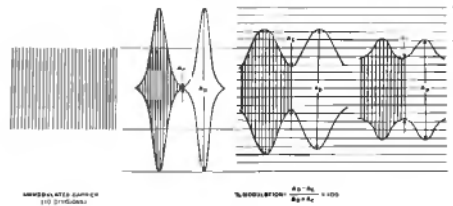

Figure 7-11. Percentage Modulation Chart
- (1) Remove the signal generator from its case. See paragraph 7.
- (2) Remove the RF shield assembly. See paragraph 8.
- (3) Turn FUNCTION SWITCH to CW position.
- (4) Adjust carrier output to 100.000 microvolts.
- (5) Turn FUNCTION SWITCH to INT MOD 400 cycle position.
- (6) Turn % MOD control fully counterclockwise.
- (7) Connect the RF OUTPUT jack (J102) to the vertical input terminals of an oscilloscope.
- (8) Place a grounded cathode probe over the face of the oscilloscope.
- (9) Adjust vertical gain of oscilloscope for 50 percent coverage on screen. Refer to Figure 7-11, unmodulated carrier.
- (10) Turn the % MOD control (R104) until focus panel meter reads 50 percent modulation.
- (11) Turn the MOD METER ADJ control (R158) until oscilloscope pattern indicates 50 percent modulation. See Figure 7-11, 50 PERCENT MODULATION.
- (12) Turn the % MOD control (R104) until focus panel meter reads 30 percent modulation.
- (13) Observe oscilloscope pattern. It should appear as drawn in figure 7-11, 30 PERCENT MODULATION.
- (14) If necessary readjust (R158) MOD METER ADJ control until 30 and 50 percent readings are both as accurate as possible, favoring the 30 percent adjustment since the value is used most often.
2. RF OSCILLATOR, BUFFER AMPLIFIER, MODULATED RF AMPLIFIER, AND RF METERING CIRCUITS	<p>a. Set the FUNCTION SWITCH (103) in the CW position.</p> <p>b. Rotate the SET RF OUTPUT control (E101) slowly from the counterclockwise to clockwise position; the meter (M101) should move toward full scale deflection. If it does, the RF oscillator, buffer amplifier, modulated RF amplifier and RF metering circuits are functioning properly.</p> <p>c. Set the BAND SWITCH (E106) to all ranges and check for operation as described previously in paragraph b. If one or more bands are inoperative, probably the trouble is in the RF oscillator circuit associated with the defective range. See table 7-4, paragraph 3(b).</p> <p>d. If test described in paragraph b. did not produce meter deflection, turn the FUNCTION SWITCH (E103) to INT MOD 400 cycle position. Rotate the % MOD control (E104) clockwise. The meter (M101) should move towards full scale deflection. If it does, there is trouble in either the RF oscillator, buffer amplifier, modulated RF amplifier or RF metering circuits. The deflection of the meter movement in this test indicates that the 400 cycle modulation circuits are functioning properly.</p> <p>e. If the meter reads in paragraph d. but not in paragraph a. or b., connect an oscilloscope to the HIGH RF OUT jack (J101). Adjust the signal generator to a carrier frequency between 10 and 500 kilocycles. Turn the SET RF OUTPUT control (E101) clockwise. If a pattern appears on the oscilloscope, the RF metering circuit is defective. See table 7-4, paragraph 4. If a pattern can not be obtained, the RF oscillator, buffer amplifier or modulated RF amplifier is inoperative. See table 7-4, paragraph 2 and 3.</p>
4. MODULATION METERING CIRCUIT	<p>a. If the test in 3 a. does not produce meter deflection, set the signal generator to 100 kilocycles and connect an oscilloscope to the HIGH RF OUT jack (J101). Turn the FUNCTION SWITCH (E103) to CW and set the meter (M101) to the red arc of the meter scale with the SET RF OUTPUT control (E101). Apply external modulation as described in paragraph 3 c. If a modulation pattern (fig. 7-11) appears on the oscilloscope, the modulation metering circuit is defective. See table 7-4, paragraph 7. If a modulation pattern cannot be obtained, the modulator stage is defective. See table 7-4, paragraph 6.</p>